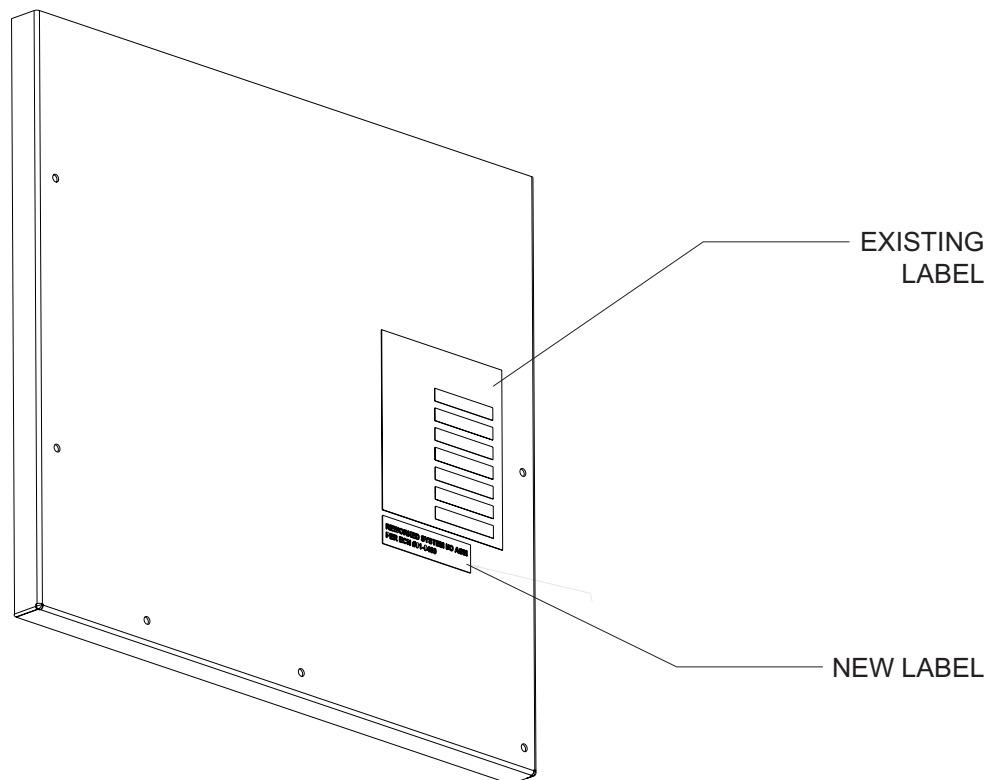

FIGURE 12. System I/O Rework Label
- 6.21 Affix a System I/O Rework Completed label to the WPU cover plate below the existing label as shown in Figure 12.